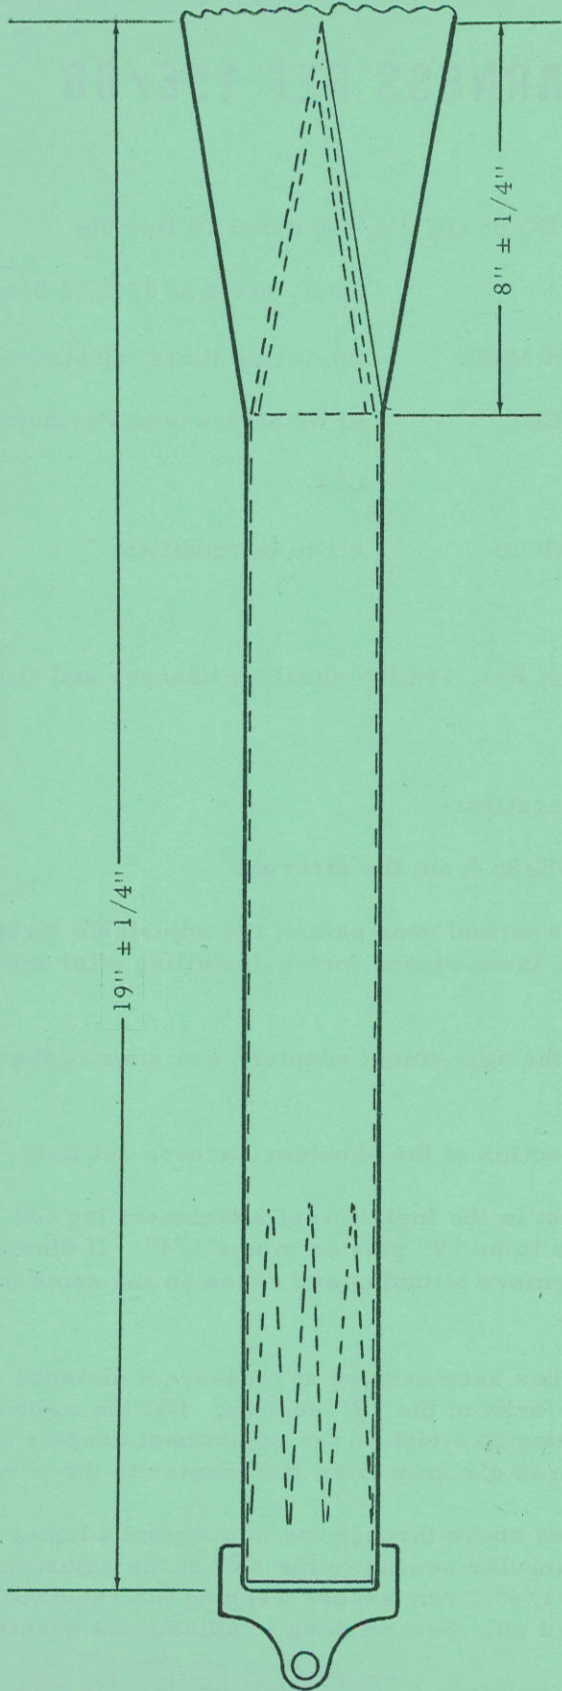

Figure 1
- (e) Length of "Y" section from the slot in the inertia reel attachment lug GQ 1001 to the apex of the triangular stitching or yoke is to be 19" plus or minus 1/4". If dimension is not correct within the tolerances carefully remove stitching and re sew in the same pattern to the dimensions outlined above, see Figure 1.